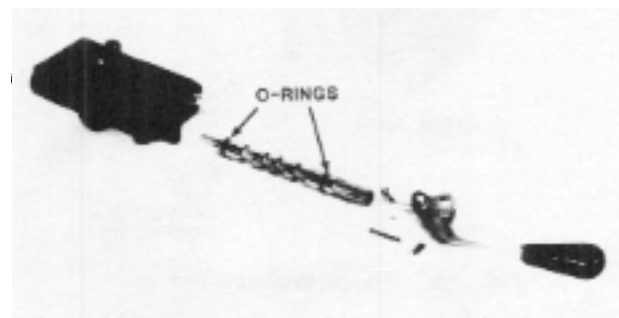

FIG. 14. Remove Handle and Spool
3. Remove the clevis pin from the handle and remove the handle and handle link (Fig. 14).